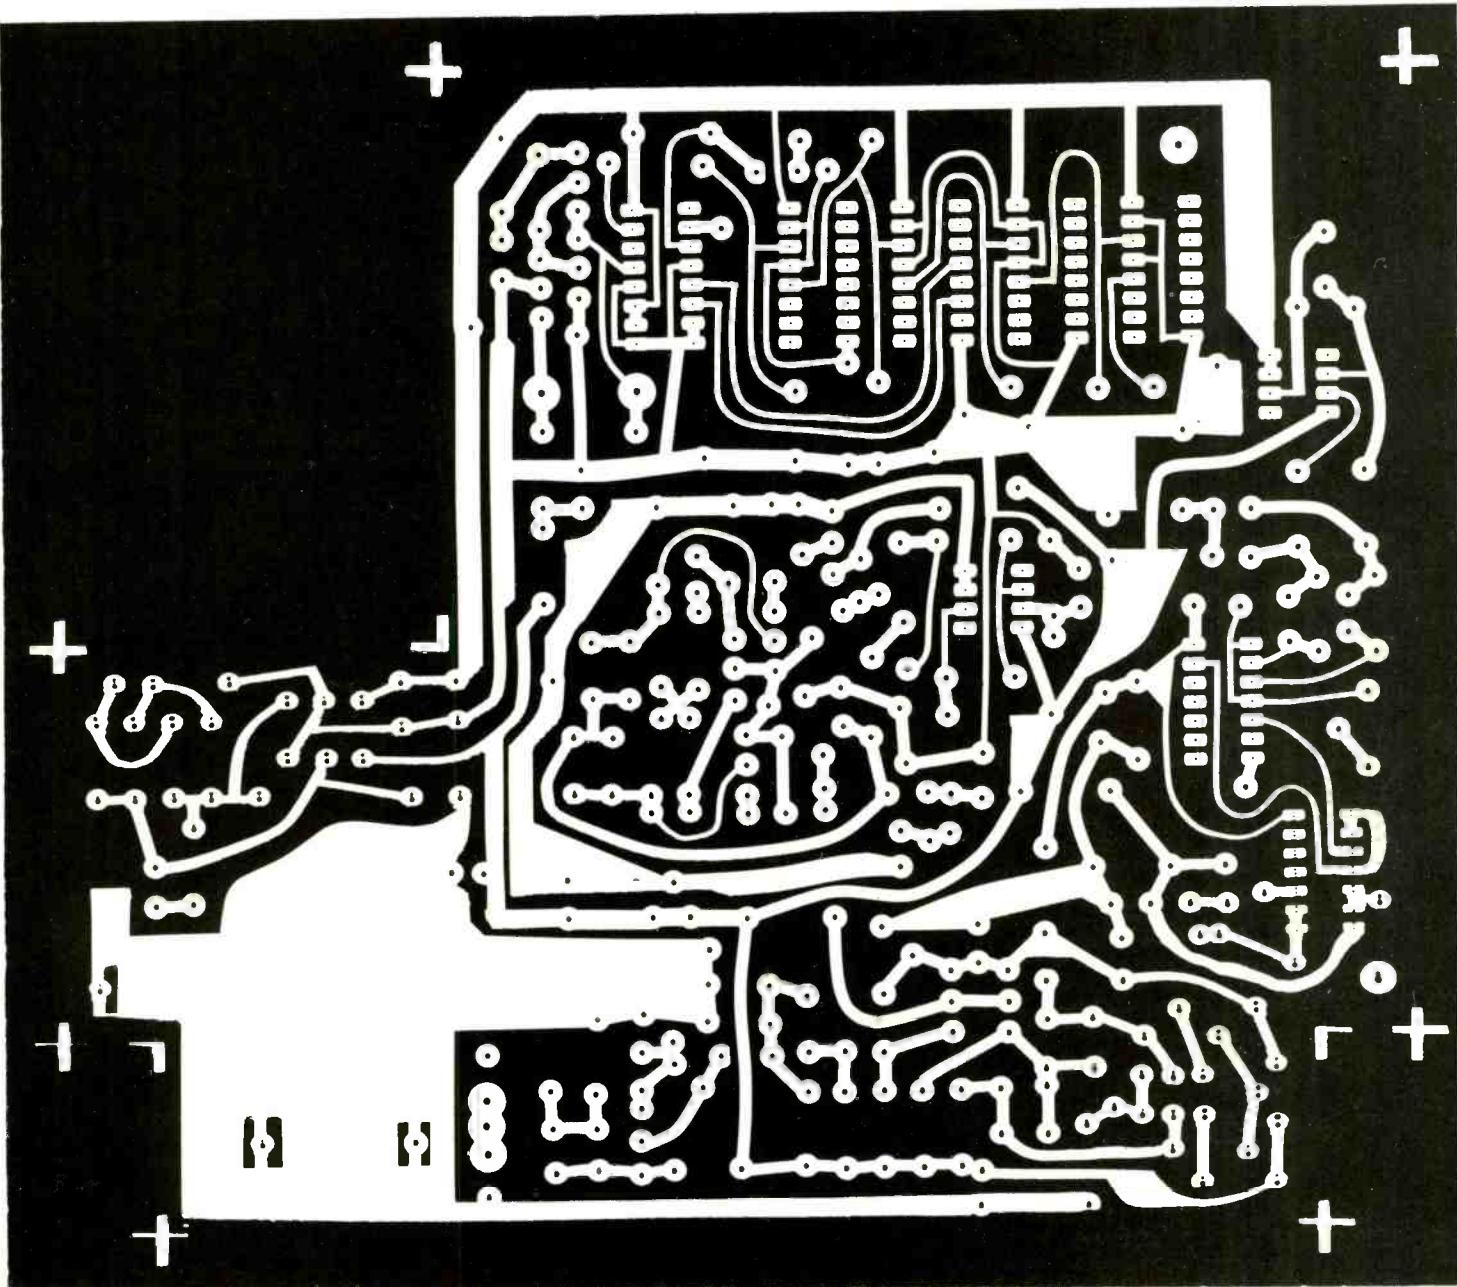

Fig. 4. Full-size etching and drilling guide of the project printed-circuit board.
**Construction.** Use the full-size etching-and-drilling guide shown in Fig. 4 to make a printed-circuit board, and mount all the fixed resistors shown in the parts placement guide given in Fig. 5. Next, install the diodes, transistors, ICs and jumpers and capacitors.